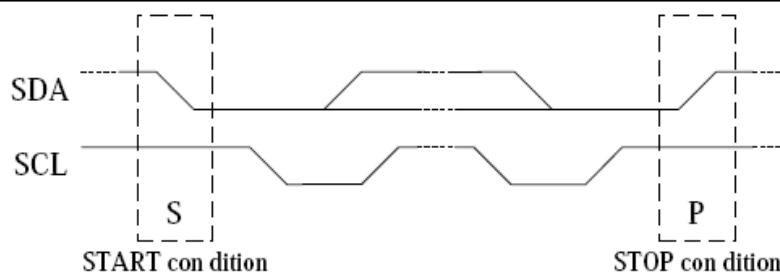

Figure 2. Definition of START and STOP conditions
Both data and clock lines remain HIGH when the bus is not busy. A HIGH-to-LOW transition of the data line, while the clock is HIGH is defined as the START condition (S). A LOW-to-HIGH transition of the data line while the clock is HIGH is defined as the STOP condition (P). The START and STOP conditions are illustrated in Fig.2.